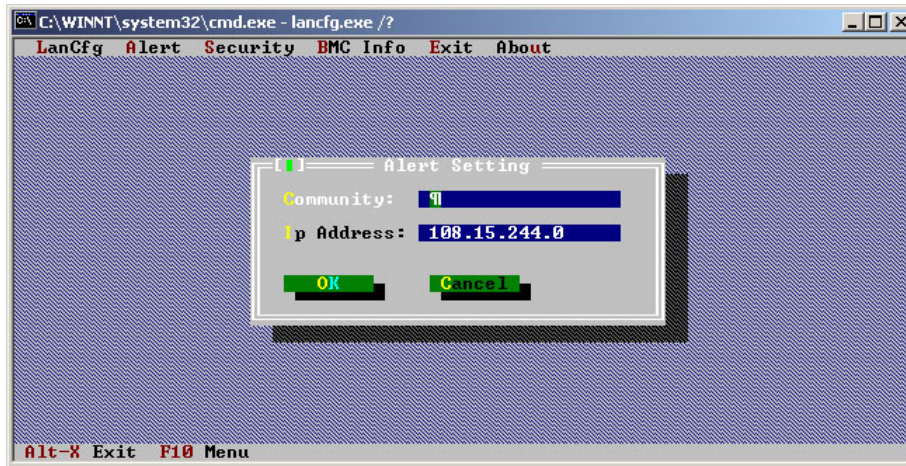

Figure 2-3 Alert Settings window
6. Press F10 to enter the menu, then select **Alert** to enter the event destination address. The Alert Setting screen is displayed. See Figure 2-3 on page 13.